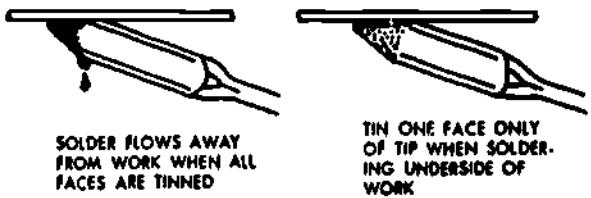

Figure 1-124. Technique for Soldering
d) For work where the iron is held under the object to be soldered, only one face is tinned, as shown in Figure 1-124.